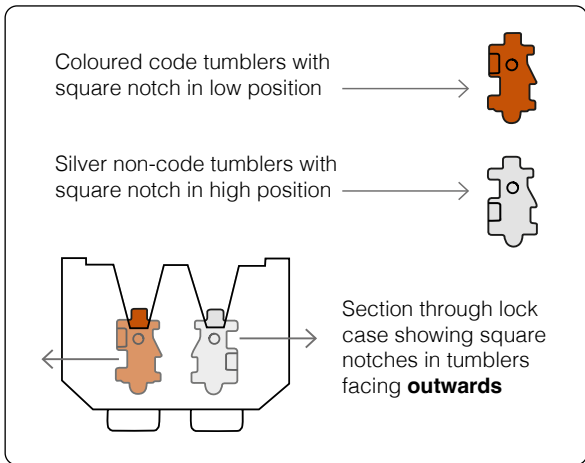

Fig.1
4. Hold the lock in your hand, press and hold the 'C' button. Keeping the 'C' button depressed use tweezers or a pair of long nosed pliers to reposition the tumblers to correspond with your new code. The square notches of **all** tumblers **must** face outwards, with the square tips **at the top**: See Fig.1, page 3. **Do not** force the tumblers in.